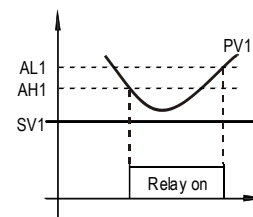

Figure 7. Absolute low alarm on J1.
- 3). When AH < AL, relay is set as low limit alarm (see Figure 7).
E.1.a) Wire the EGT sensor (K type thermocouple in this example) and the MAP sensor (AUBER-303) as shown the Figure 7, where the EGT sensor is connected to channel 1 and MAP sensor is connected to channel 2.